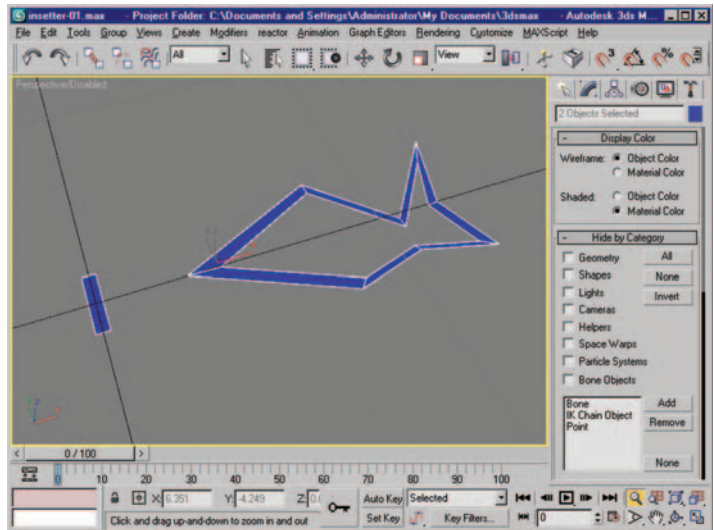

Figure 3.31 Polygon and shape after shift–dragging edges.
2. Shift–drag a shape similar to the one shown in Figure 3.31. It looks like a segmented fish body. (If you want to use the accompanying file you can download it at <http://www.todddaniele.com/FocalPress.htm>.)